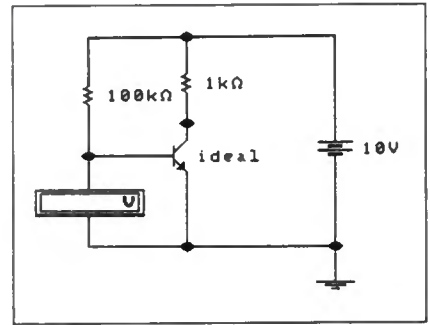

Fig. 4.32 Circuit for Assignment 4.3 with the voltmeter connected to read the value of V_{BE} .
1. Connect the circuit shown in Fig. 4.32. The voltmeter is to be connected so that it will indicate the base-emitter voltage (V_{BE}) for the transistor.